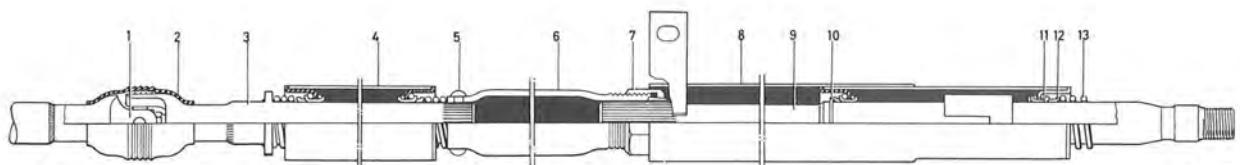

Fig. 6-41. Steering column components
To replace the upper bearing (11, Fig. 6-41), First remove the steering wheel, spring (13) and seat (12). If the other bearings are to be replaced, the steering column must be separated from the sleeve (6). If the upper steering column jacket (8) is involved, release it and then the locked nut (7). When assembling, tighten the nut (7) to a torque of 3–5 kgm (20–36 lb.ft.) and then lock the nut by driving the edge into one of the slits. If the lower steering column jacket (4) is involved, drill out the rivet (5). When assembling, use rivet KN 5×32 mm.